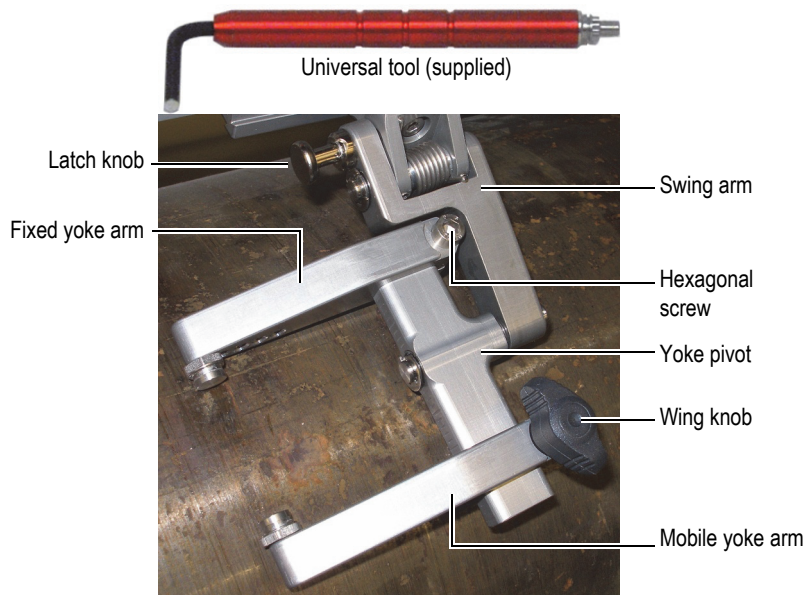

Figure 2-12 Changing the yoke arms
Refer to Figure 2-12 on page 45 for the identification of the parts.
2. Use the supplied universal tool to loosen the hexagonal screw (see Figure 2-12 on page 45).